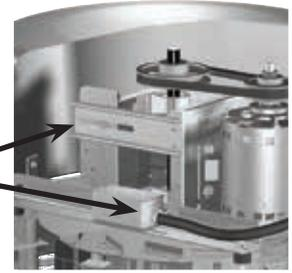

Figure 17
7. Belt tension can be adjusted by loosening four fasteners on the drive frame, see Figure 17.